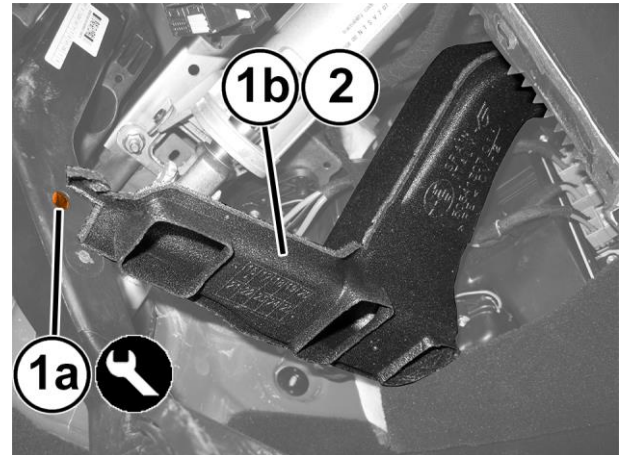

Figure 1 – Lower Left Air Vent
4. Move the lower left air vent (1b) clear. (Figure 1).
17. Install the lower left air vent (1b) (Figure 1).